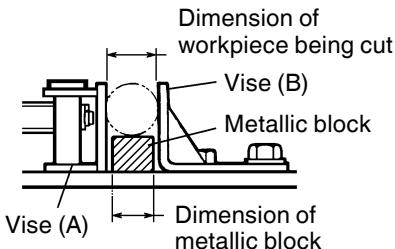

Fig. 11
6. Using a Metallic Block (Fig. 11).